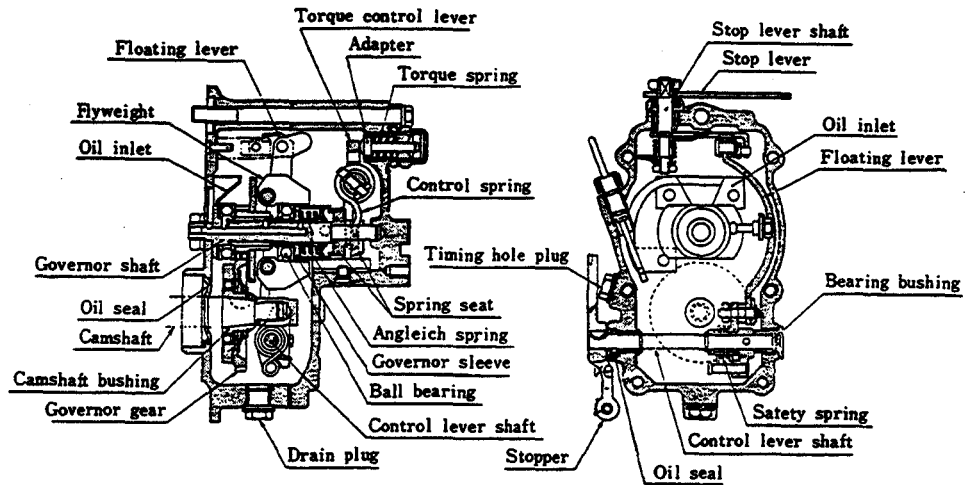

Fig. 3-28 Mechanism of RUV governor
- 2) As mechanism illustrated Fig. 3-28, two flyweight combined with governor shaft and rotates through the gear which equipped with camshaft, and centrifugal force of weight conducts to the governor sleeve.